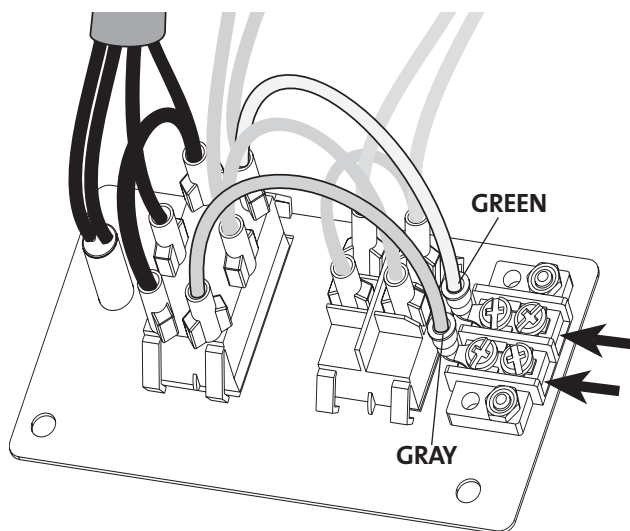

Figure 34. Wall thermostat / Remote Control connections.
- The thermostat or receiver leads should be connected to the open terminal block using a minimum 18 gauge wire having a maximum length of 20 feet. See fig 34.
Remove the burner control face plate and connect the remote receiver leads to the open terminals on the back of the switch plate as shown in fig. 34.